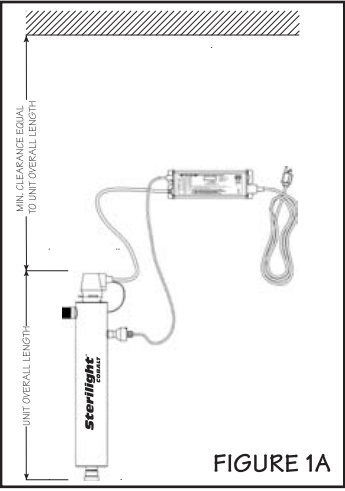

FIGURE 1A
2. Select a suitable location for the disinfection system and its related components. As it is recommended to install a ground fault protected circuit (GFCI), make sure that this is taken into consideration prior to any installation. The system can either be installed vertically (inlet port at the bottom) (Figure 1A), or horizontally (Figure 1B), however the vertical installation is the most preferred method. When selecting a mounting location, you must also leave enough space to allow for the removal of the UV lamp and/or quartz sleeve (typically leave a space equal to the size of the reactor chamber itself). (Note: Installation drawings show Cobalt "PLUS" system with UV sensor for representation purpose only)